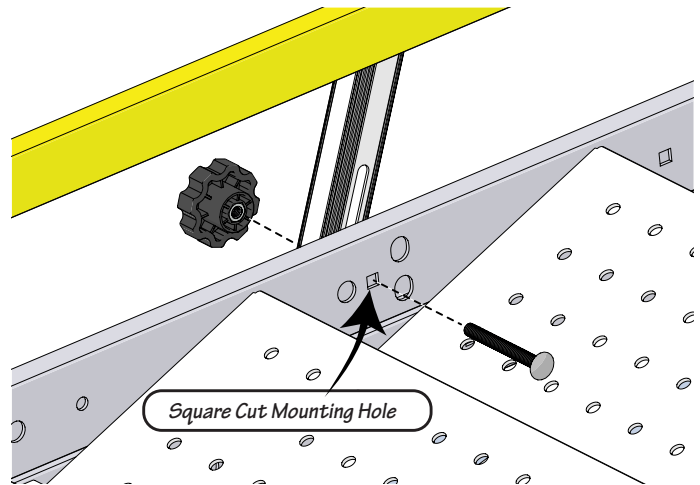

Fig. 9-1
- The bolt will pass the square mounting hole as shown in Fig. 9-1.